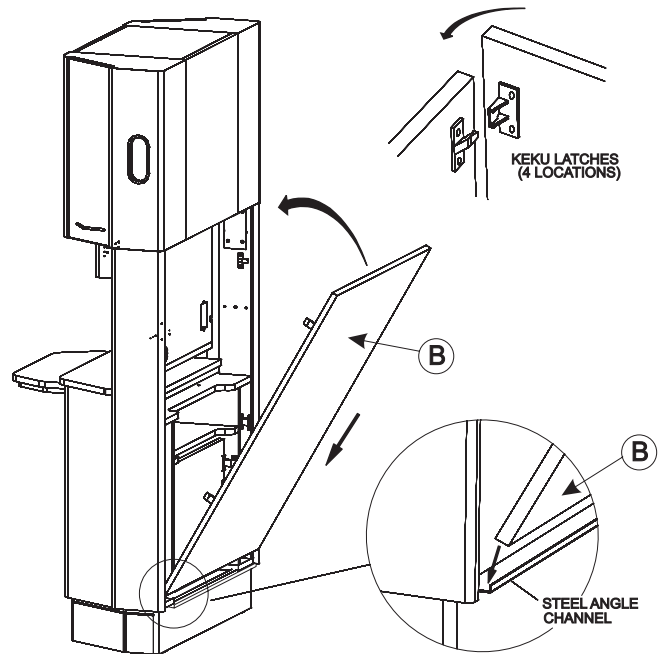

Figure 7
Replace the Back Panel (B) by seating the bottom edge into the steel angle channel at the bottom of the rear opening (see Figure 7). Tilt the top edge inward until all (4) Keku Latches are fastened. You may need to use a rubber mallet to tap the panel into position.